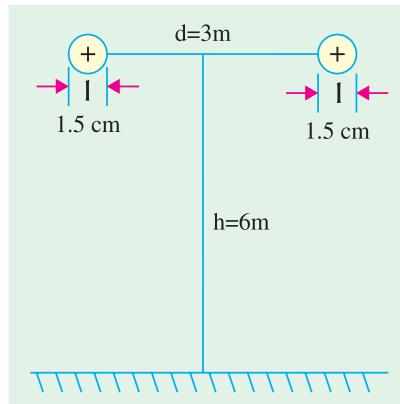

Fig. 41.17
**Solution.** The line conductors are shown in Fig. 41.17.